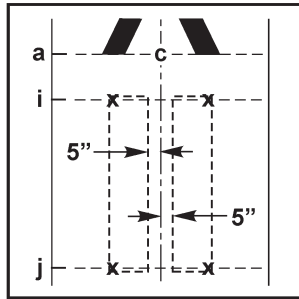
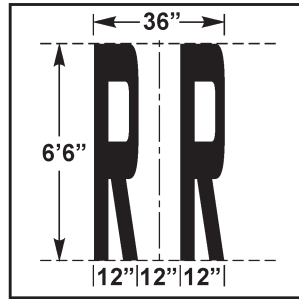

Figure 44
Figure 45
10. Apply one coat of E-44T contact adhesive to the pavement as shown by the shaded area in Figure 44. This is where the two “R”s will be placed. Make sure to extend the E-44T adhesive at least 1 inch beyond the edges of the tape (see Figure 44).
- Lay out both "R"s within the shaded area in Figure 44. Keep the outside edge of the "R" along the vertical chalk lines, and the bottom of the "R" on line "j" (see Figure 45).